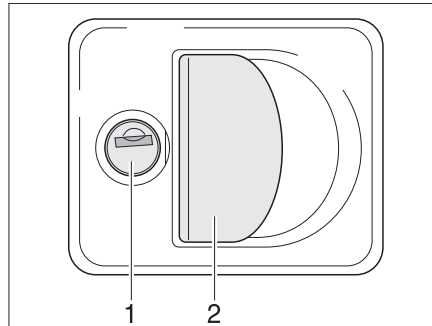

Fig. 27 Flap lock with recessed handle
- Insert the key into the locking cylinder (Fig. 27,1) and turn a quarter turn. The flap lock is unlatched.
- Pull on the lock handle (Fig. 27,2). The external flap is open.